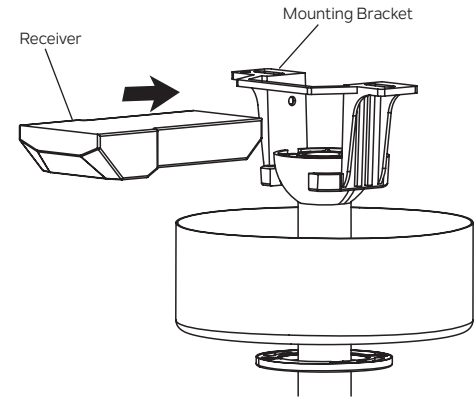

Fig. 15
Step 1. Insert the receiver into the mounting bracket, with the flat side facing up toward the ceiling. (Fig. 15)